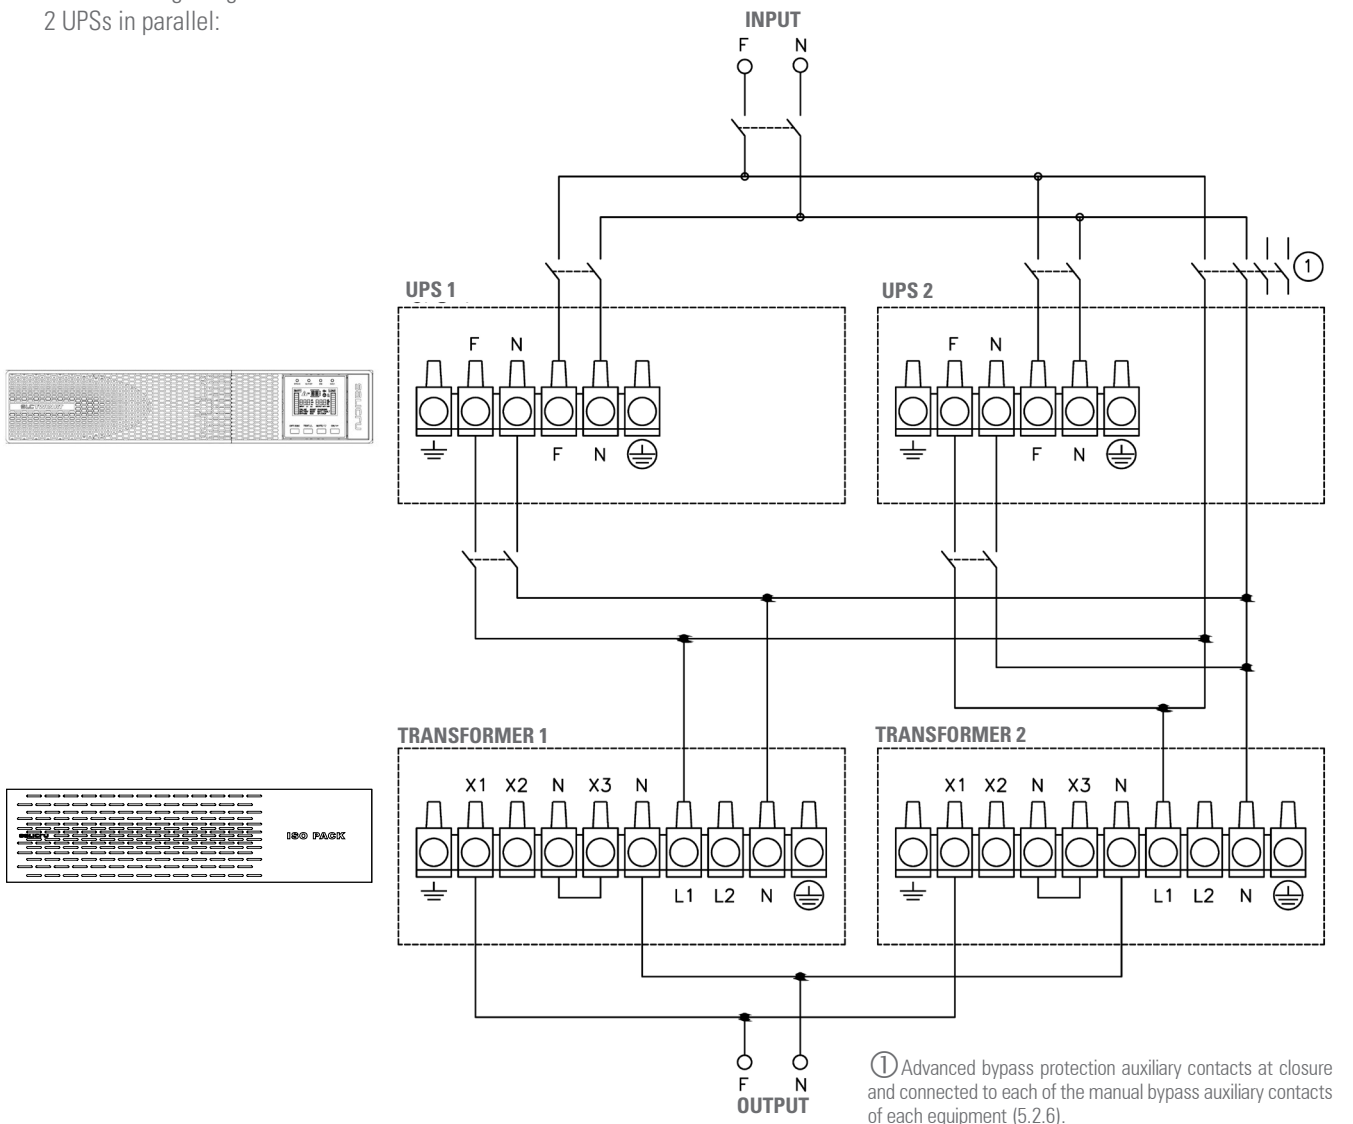

Fig. 26. Connection of the terminals of 2 UPSs in parallel.
- When installing the system in parallel, it is necessary to provide it with a board equipped with individual input and output protections, as well as a manual bypass with mechanical locking (Fig. 26).
- Fig. 26 shows a conceptual representation of a distribution board with manual bypass for a parallel system, representative for a single device, with the number of switches adapted.